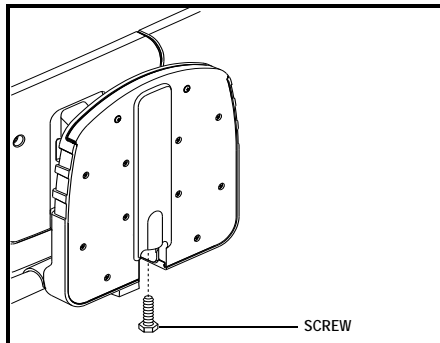

Figure 22. Underside of Foot Platform
1. Flip up the foot platform and locate the screw. **See figure 22.**